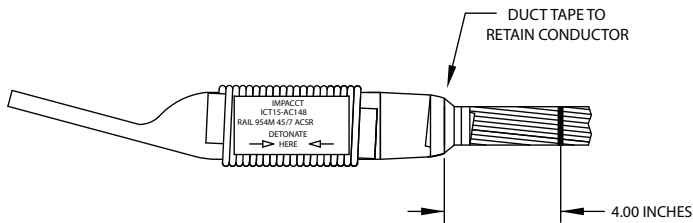

Fig. 2
2. The conductor must remain at "Mark" prior to detonation. To maintain a tight assembly: use "Duct Tape" to secure. Wrap onto end of barrel, then conductor, to hold conductor tight within assembly. See Fig. 2. Measure from end of barrel to 4-inch "Mark" to ensure the conductor has not pulled out.